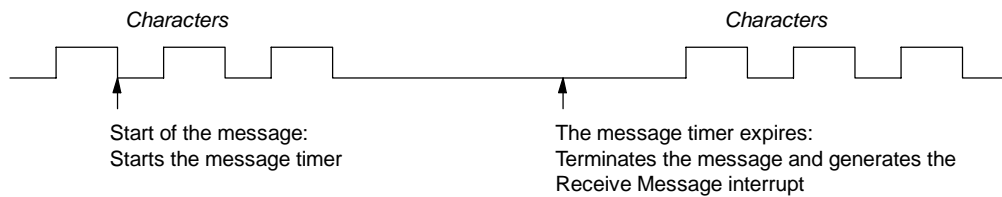

Figure 6-13 Using the Message Timer to Terminate the Receive Instruction
3. *Message timer*: The message timer terminates a message at a specified time after the start of the message. The message timer starts as soon as the start condition(s) for the receive message function have been met. The message timer expires when the number of milliseconds specified in SMW92 or SMW192 have passed. See Figure 6-13.